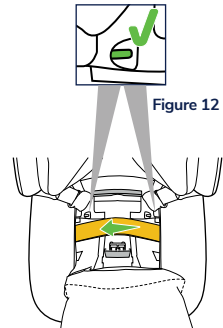

Figure 12
Step 2. Ensure both tension indicators show green after locking the SMART Lock® (Figure 12).